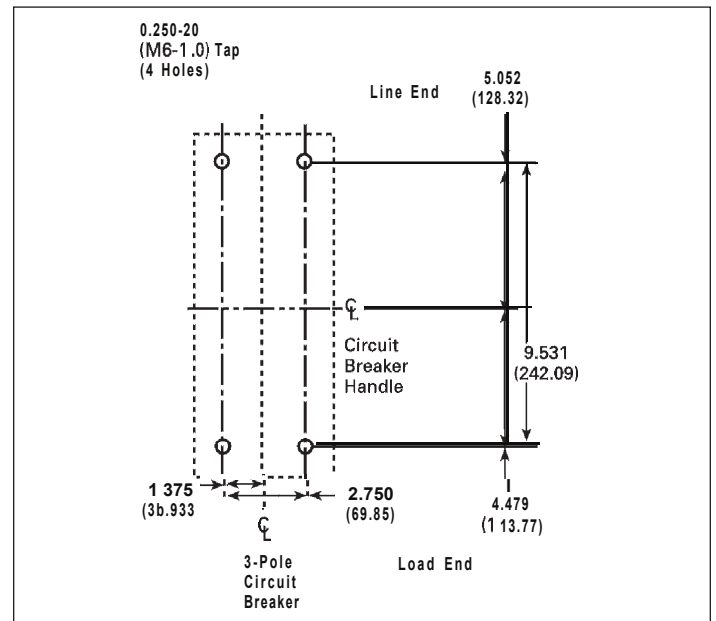
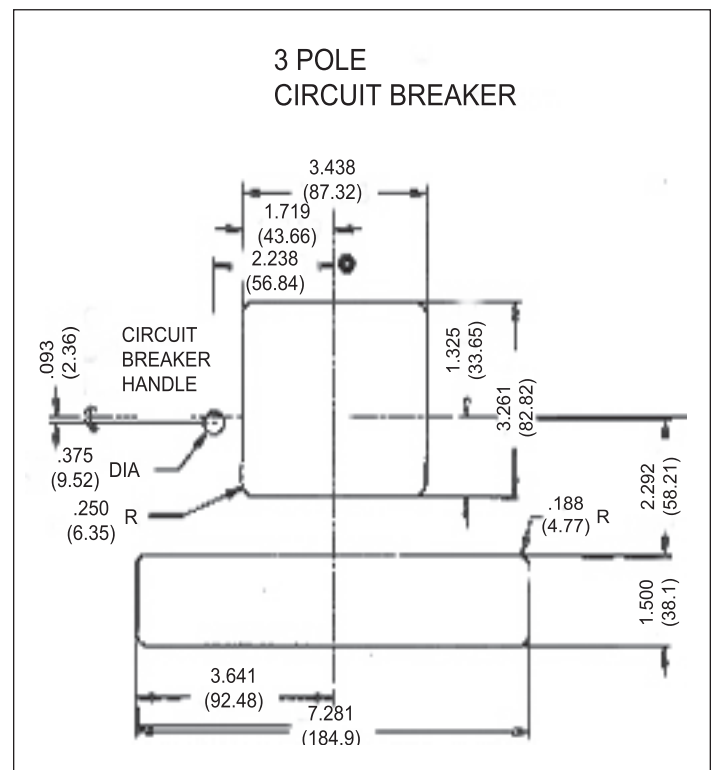

Figure 3. Mounting Bolt Drilling Plan.
Figure 4. Escutcheon and Cutout Dimensions.
- b. For individual surface mounting drill mounting panel using the drilling plan shown in Fig. 3 for L-Frame. For panel-board mounting, only load end support mounting holes are required. For dead-front cover applications cut out cover to correct escutcheon dimensions (see Fig. 4).